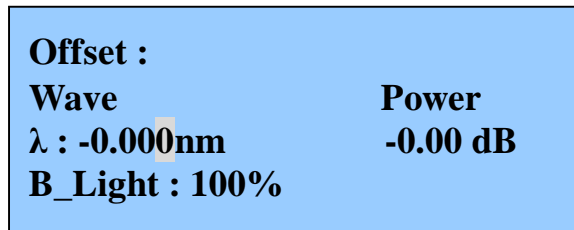

Figure 9 Set the wavelength offset
- 3 Pressing [  $\blacktriangleleft$  ] or [  $\blacktriangleright$  ] pushbutton to move to the desired digit, as shown in Figure 9.